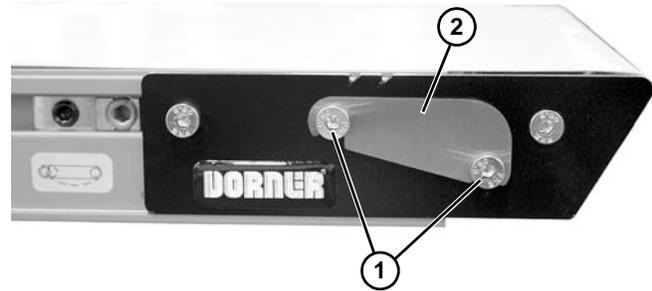

Figure 29
1. Loosen screws (Figure 29, item 1).
2. Install dust cover (Figure 29, item 2) behind screw heads and over access slot. Tighten screws (Figure 29, item 1).